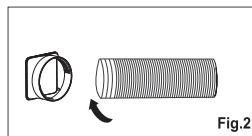

Fig.2
- 1 .Extend either side of the hose (Fig.1), and screw the hose inlet (Fig.2).